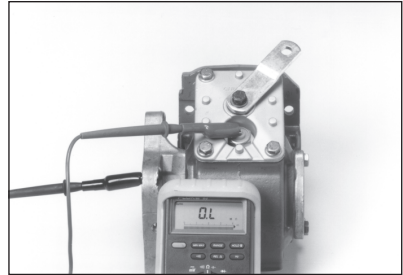

Fig. 23
1. Use a continuity checker, battery type, either meter or light. Attach one (1) probe to the screw on the 379639 or 379652 Indicator Switch.
2. With the other probe, make contact with the shifter cover or housing (Fig. 23).